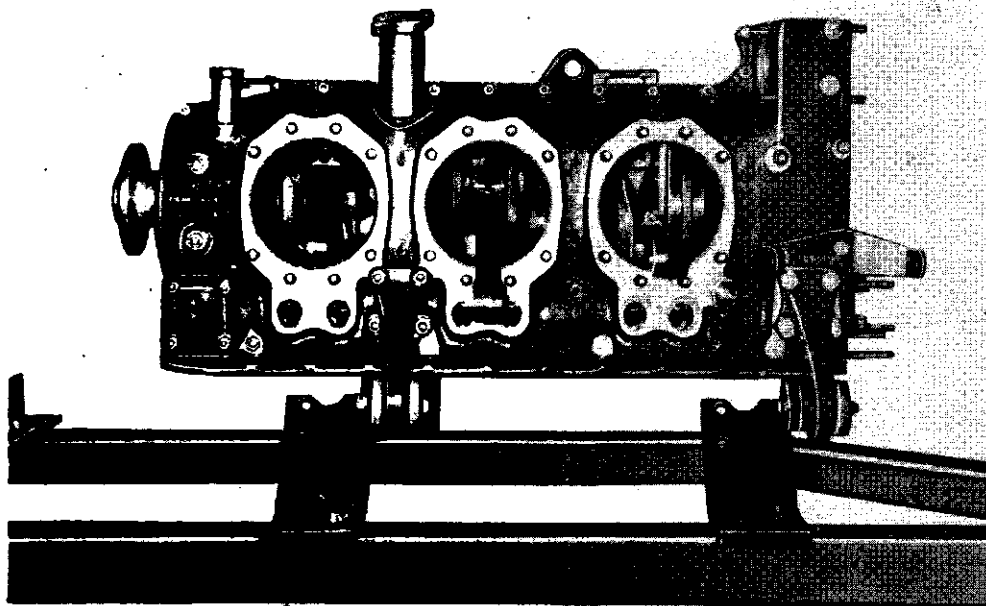

Figure 60. Left Side of Completed Crankcase Assembly
a. Install the oil filler neck and attach the mount brackets on the left crankcase to the assembly stand in the same way as during disassembly, and place the pipe support (1) under the casting.
d. Insert the governor driven gear (5) into its bearing.
e. Slide the governor driver gear on the front end of the camshaft. Lay the camshaft assembly in its bearings in the left case, meshing the spur gear teeth with those of the crankshaft gear so that the timing marks will align as illustrated in figure 60, and turning the governor driven gear to mesh it with the driver gear.
j. Install the generator mount bracket (36 or 81) on the lower rear through bolt, and attach it with a nut, spacer, bolt (5-7/16 in. long) and lock washer (32 through 35). Do not install a palnut (31) yet.
k. Install and tighten the support pin attaching parts (44, 45). Figure 60 shows the completed crankcase assembly.